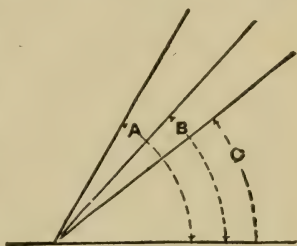

FIG. 95
soft wood and the latter for the harder kinds. Fig. 95 affords an idea of three angles, A giving the set of a half-pitched plane, B that of an ordinary plane, while C shows the inclination of an extra-pitched plane. The pitch or angle at which the cutter is set is of importance. There are three angles involved in this case: (1) The angle between the cutter and the surface of the work; this should be as small an angle as possible. It is obvious that if the surfaces of the cutter and the work were perfectly parallel, the cutter would glide over the surface without cutting, except under great pressure. By making the cutter edge